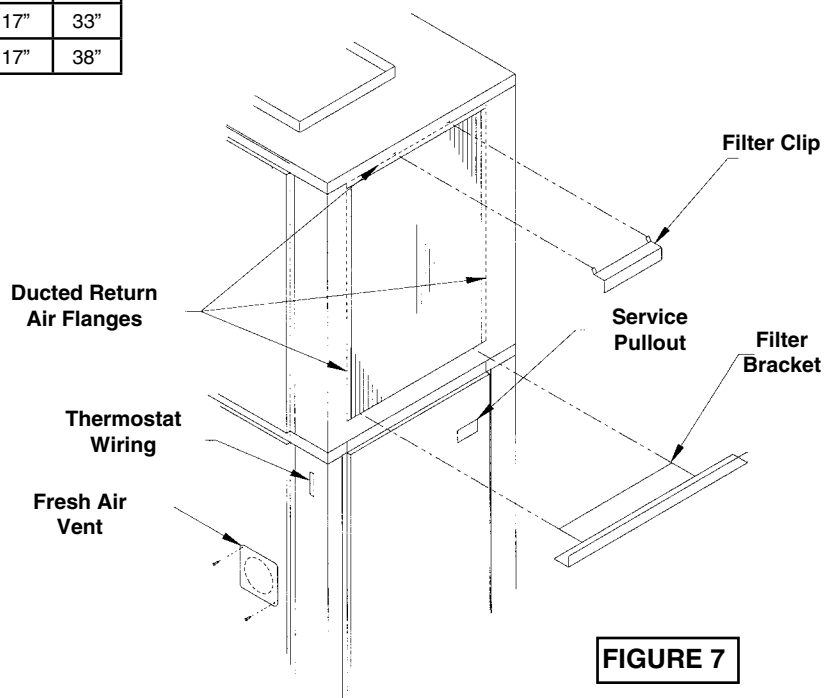

FIGURE 7
10. **Filter Brackets** – (See Figure 7) Filter Brackets and throw away filter are shipped with each unit and are field installed over the unit's evaporator coil. Filter size is 18 x 24 x 1.